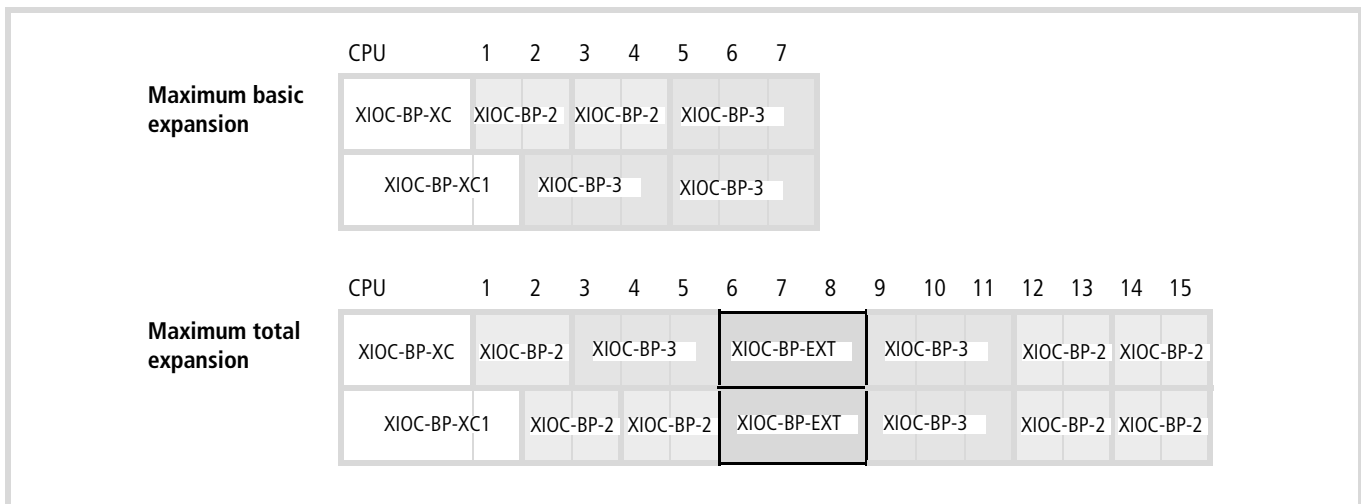

Figure 4: Maximum expansion of the I/O modules without and with XI/OC bus expansion
As a rule, the first backplane, which is used to take the XC-CPU100/200 CPU type is a basic backplane. You can add on several expansion backplanes to the right side. The backplanes must be arranged so that one CPU module for basic expansion and a maximum of seven XI/OC signal modules can be planned (→ fig. 4).
Through the use of bus expansion, you can add further backplanes consisting of CPU and 5, 6 or 7 I/O modules to the basic expansion. The bus expansion has the same design and the same dimensions as the XI/OC-BP-3 expansion rack. However, it is equipped with additional components for amplification of the bus signals. The arrangement of the bus expansion with the basic expansion is fixed (→ fig. 4). The maximum expansion stage can accept 15 XI/OC I/O modules.
- If you wish to expand existing basic expansion with 6 or 7 I/O modules, you will need to replace an existing rack (backplane) (XI/OC-BP-2/XI/OC-BP-3) by a bus expansion (XI/OC-BP-EXT). The bus expansion may only be positioned at the position indicated in Figure 4.